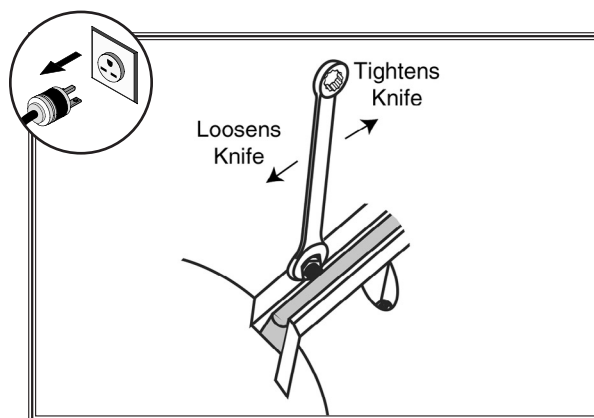

Figure 47. Gib bolt loosening/tightening direction.
5. Loosen the cutterhead gib bolts (see **Figure 47**), starting in the middle, and alternating back and forth until all of the gib bolts are loose, but not falling out.